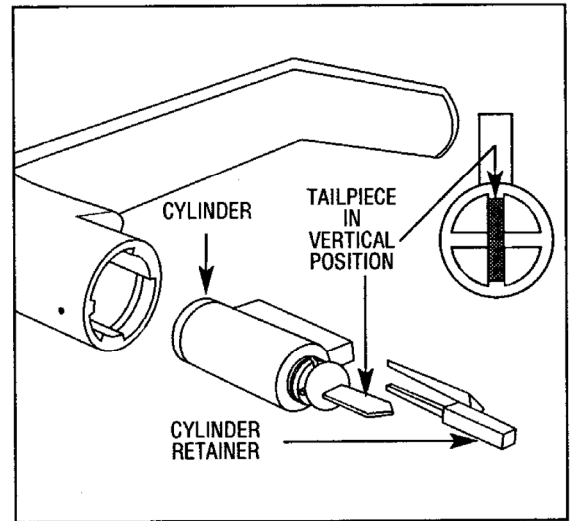

FIG. 18: STANDARD CYLINDER-LEVER, TAILPIECE AND RETAINER.
- a. Install the tailpiece, cylinder retainer and cylinder into the standard lever as shown in Fig. 18.
- Key and Tailpiece orientation are incorrect (See Figs. 18 - 20).
- Lever Catch not fully engaged. Lock is not centered on door. Check for proper Tailpiece and proper orientation of Tailpiece (See Figs. 18 - 20).